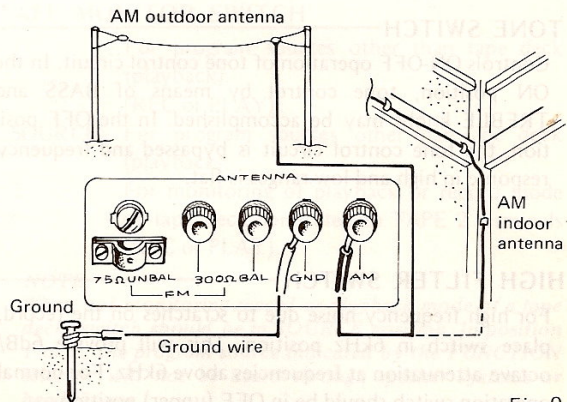

Fig. 9
**AM indoor antenna:** A single strand vinyl insulated wire 6-8m in length should be connected at one end to the AM antenna terminal on the rear of the receiver, and the other end suspended at an elevated point, as shown in Fig. 9.
**AM outdoor antenna:** If reception is still poor with use of the indoor antenna, an outdoor antenna may be erected using single strand vinyl insulated wire, as shown in Fig. 9.